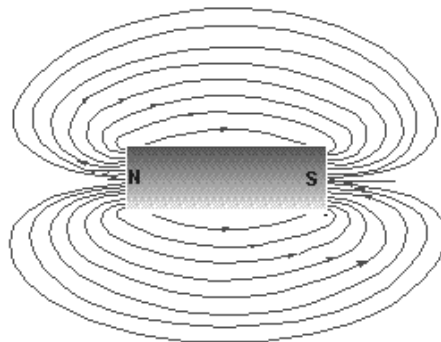

**Figure 1-13.—Pattern formed by iron filings.**
A pattern of this directional force can be obtained by performing an experiment with iron filings. A piece of glass is placed over a bar magnet and the iron filings are then sprinkled on the surface of the glass. The magnetizing force of the magnet will be felt through the glass and each iron filing becomes a temporary magnet. If the glass is now tapped gently, the iron particles will align themselves with the magnetic field surrounding the magnet just as the compass needle did previously. The filings form a definite pattern, which is a visible representation of the forces comprising the magnetic field. Examination of the arrangements of iron filings in figure 1-13 will indicate that the magnetic field is very strong at the poles and weakens as the distance from the poles increases. It is also apparent that the magnetic field extends from one pole to the other, constituting a loop about the magnet.
- Q27. Refer to figure 1-13. For what purpose would you sprinkle iron filings on the glass plate?*
- Q28. Refer to figure 1-13. What pattern would be formed if sawdust was sprinkled on the glass instead of iron filings?*